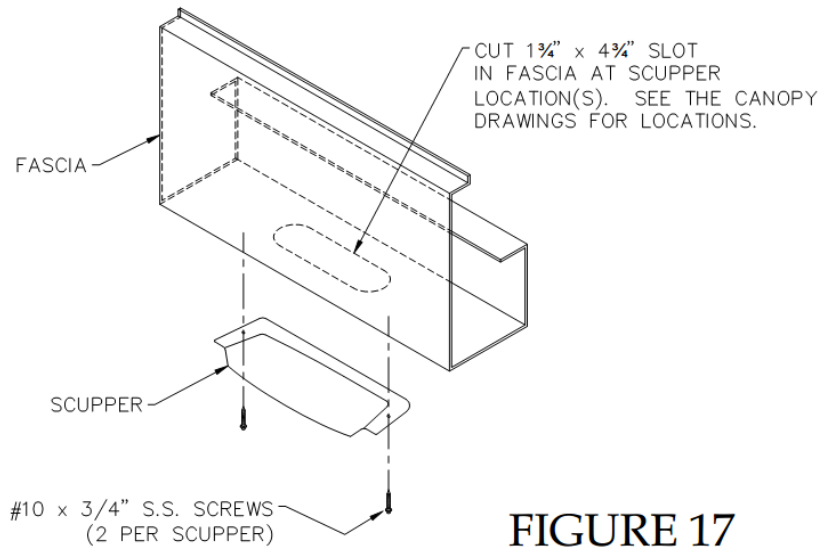

FIGURE 17
- A. If scuppers are used instead of column drains, cut a slot in the center of the bottom of the fascia (Figure 17) at the location(s) of the scupper(s) as shown on the canopy drawings.
- B. Attach the scupper(s) to the bottom of the fascia using (2) #10 x 3/4" SS screws (Figure 17).